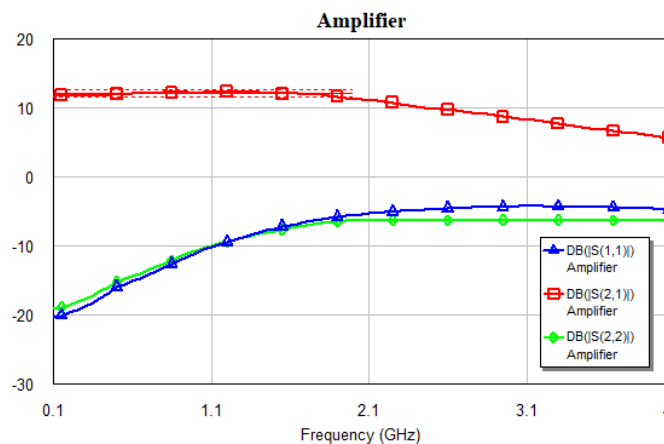

Fig. 3 S-parameters of the optimized amplifier with feedback circuits.
- Results after the optimization may resemble those presented in Fig. 3.